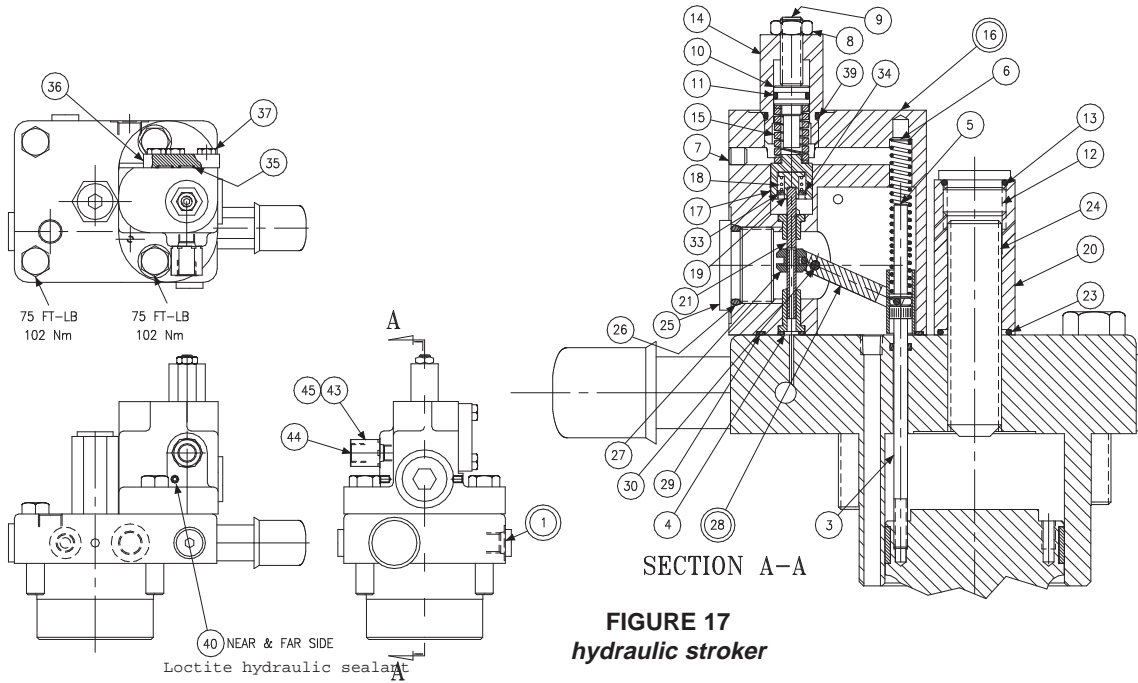

FIGURE 17
PARTS LIST FOR FIG. 17
1. See figure 17. Remove 2 screws holding body (16) to cap assembly (1).
2. Remove all parts from body (16) except pin (30) and arm assembly (28). It is not necessary to remove these parts unless broken or worn. Examine parts for wear or damage.
3. Remove screw (3). Examine head for excessive wear, and body for smooth sealing surface with O-ring.
2. Install spool (4) into bore as shown. Install spring (8) over end of spool.
3. Install O-ring (13) on spring retainer (12). Install retainer (12), screw (14), and nut (15) in plug (3).
4. Install O-rings (7) and (16) on plug (3). Install plugs (3) and (9) in body (1). Install orifice (20) and plugs (10). Torque plugs. Install O-ring (5) in cap.
5. Turn screw (14) in until spring retainer (12) contacts spring (8). Turn an additional 1-1/2 turns and lock in position.
8. See figure 17. Apply Loctite 242 on threads of screw (3), lubricate the shank, thread through the cap into the control piston, and torque to 5 lb.·ft., 6,78 Nm.
9. Install minimum stop screw (24) and turn clockwise to stroke pump to full volume. Measure height from control cap to top of screw (3). With control piston at full stroke, dimension must be .45 +/- .03 in., 11,4 +/- 0,76 mm. Back out minimum stop screw (24) till there is no contact with control piston.
10. Press dowel (30) into body (16), through the link (28), to 1/4", 6,35 mm below surface. Apply Loctite hydraulic sealant to threads of screws (40) and install over dowel (30).
11. Press spool (21) into retainer (19). Caution: do not use excessive force. Place spool/retainer assembly into spool (17) with spring (18) and washer (34). Secure with retaining ring (33).
12. While sleeve (27) is engaged into dowel on link (28), slide above spool assembly into bore of body (16), and through sleeve (27). Spool (21) must move freely and easily at all positions of the link (28).
13. Assemble all other components into body (16) per above drawing. Torque plug (12).
14. While spring retainer is engaging clevis pin (5) under dowel of link (28), slide the other opening of spring retainer over the top of the screw (3). Attach body assembly (16) to cap (1) with two screws and torque to 75 lb.·ft., 102 Nm.